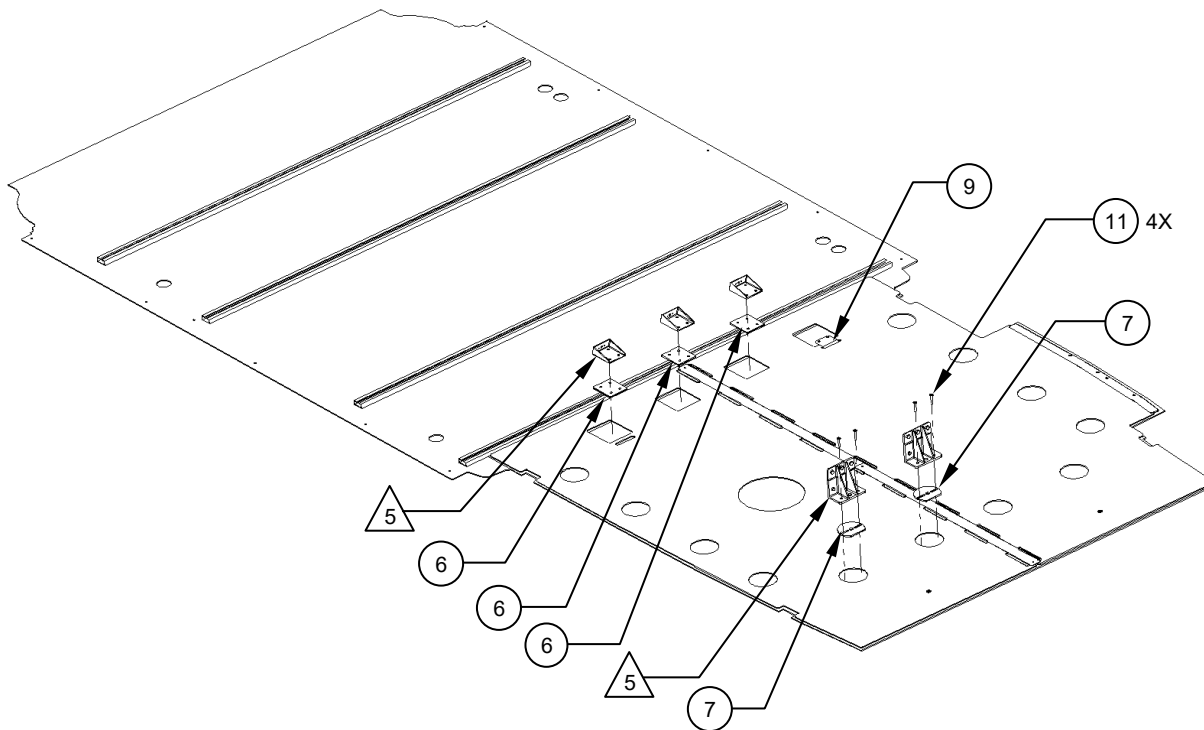

Figure 8
3. Remove the 3X Spacer, Assys (Item 6) from the tie-down locations. Re-install tie downs using OEM hardware. See Figure 8.
1. Remove cargo door sill (Item 4) and re-install the OEM hardware. Remove provided fasteners (Item 10) as shown, replace with OEM. Remove the RHS Panel, Assy (Item 2) by tipping the panel on an angle and removing from the Retainer Strip, Assy (Item 3). Reference Figures 8, 9 & 10.